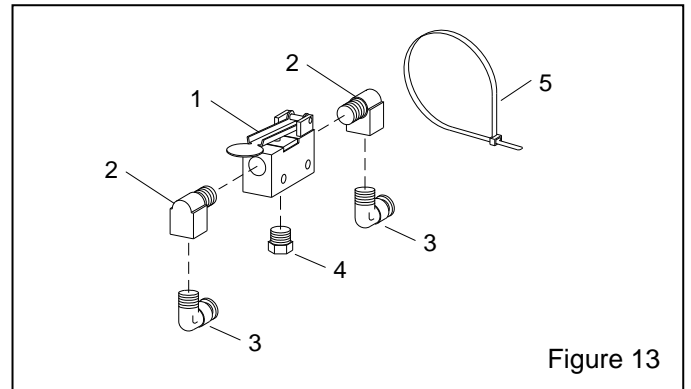

Figure 13
7.5 Control Handle Assembly, Figure 13